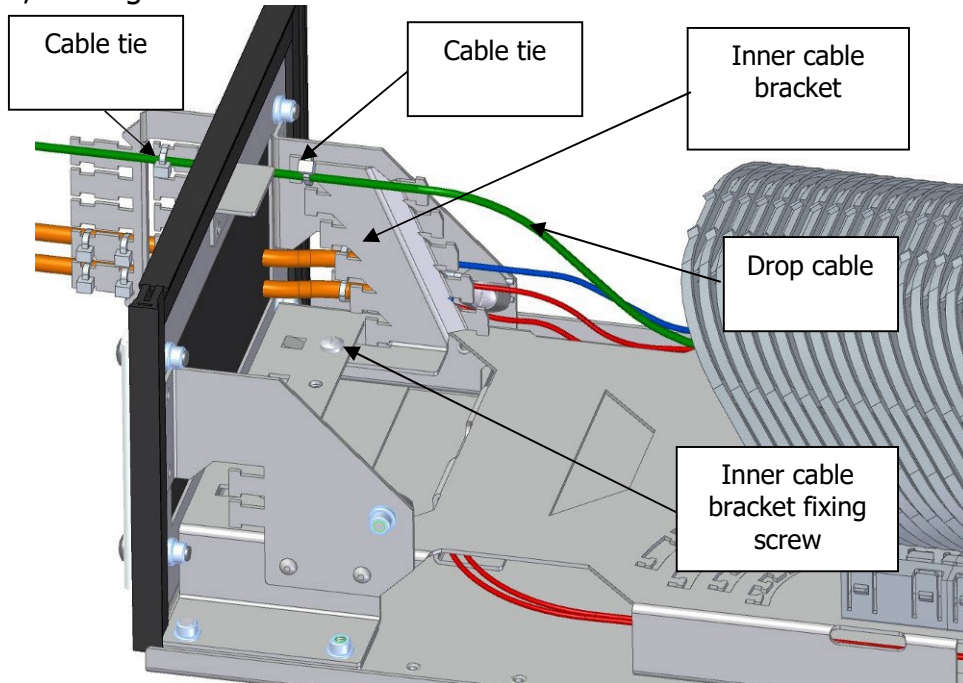

Fig.9. Drop cable fixing
12. Customer drop cables are fixed to outer and inner cable brackets with cable ties, see Fig.9.